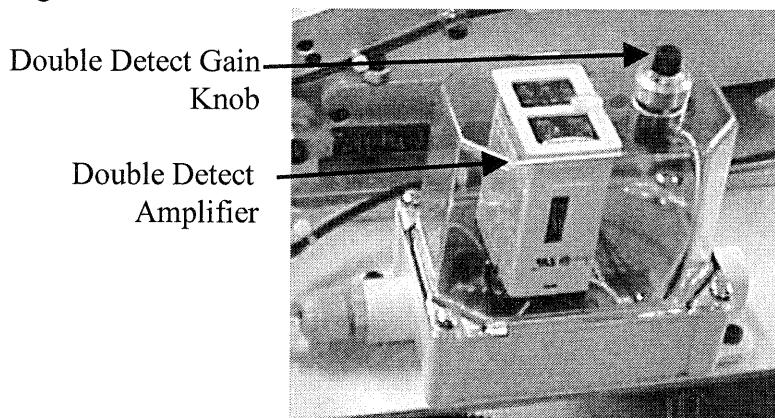

Figure 8.0
3. **Feeder Double Detect:** The double detect emits a light which “burns” through a single piece of product based on the intensity. If two pieces of product pass between the emitter and receiver the light doesn’t “burn” through and stops the base. A gain knob mounted on the double detect amplifier controls the amount of “burn” through. See Figure 8.0.